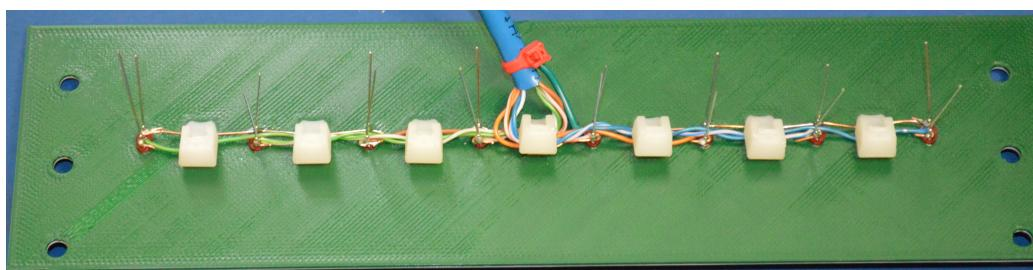

Figure 2.11: The Completed Panel
- Find a place to solder the ground/return wire from the connector to the bare LED ground/return wire. See Figure 2.11.
- Complete the other side of the panel. See Figure 2.11.